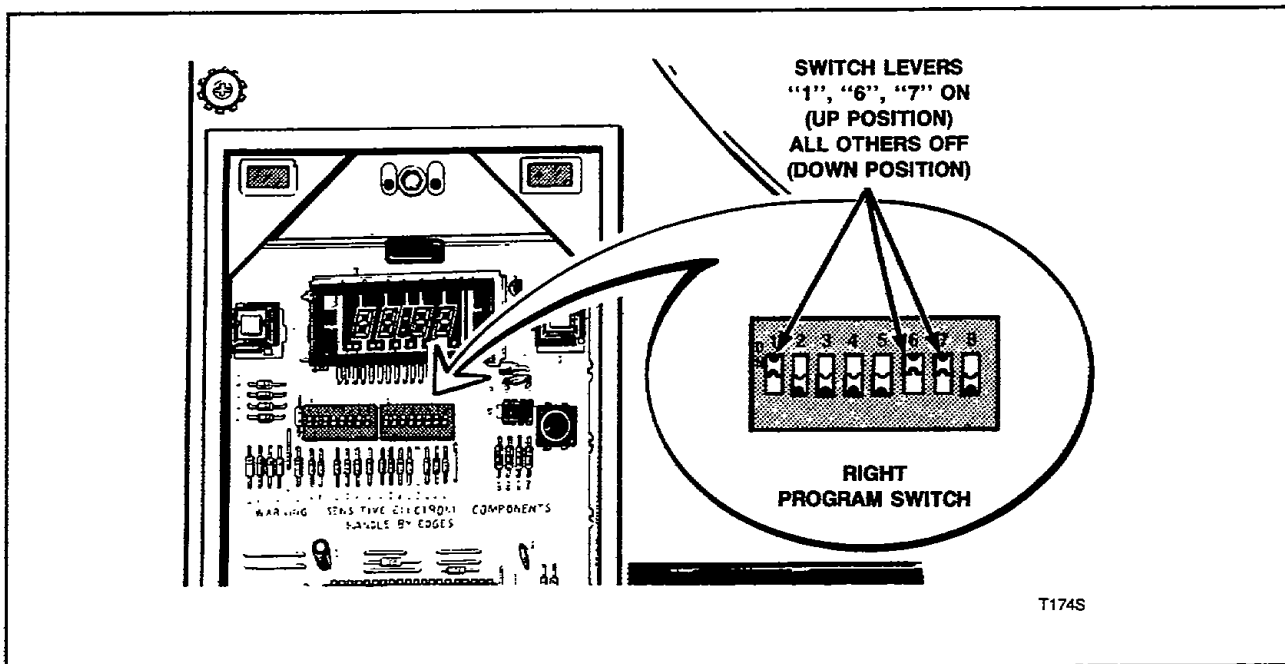

Figure 39
- d. Slide the right program switch number 4 down and slide right program switch number 7 up, *Figure 39*. Switches 1, 6 and 7 must be up and all other switches must be down.